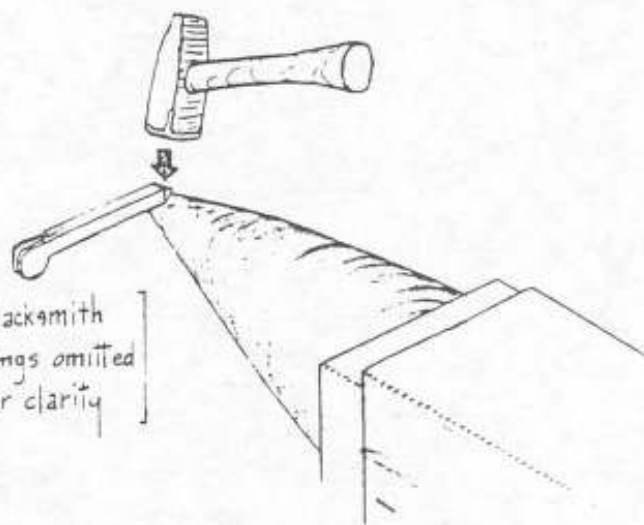

figure H6: Creating a scarf
- Place this blunt taper near the end of the anvil horn and "fuller" a point (scarf) (Peter Ross accomplished this with two or three quick blows) see sketch, fig. H6 & H7